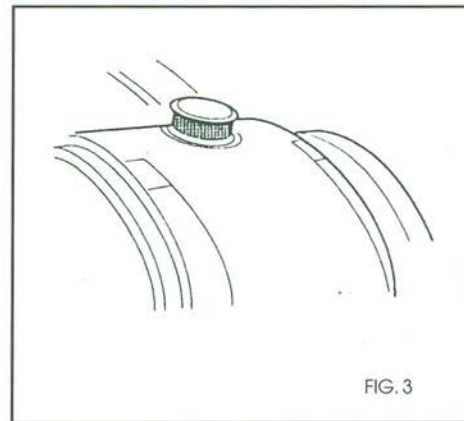

FIG. 3
- If the green indicator is visible then you know you have correctly coupled your AKS to your towing vehicle. (Fig. 3)